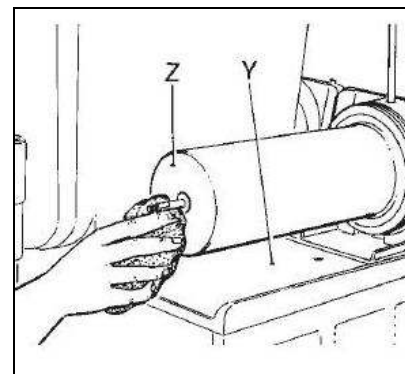

Fig. 15
- Thoroughly wash the evaporator and the drip tray surfaces with a sponge soaked with the sanitizer (see fig.15), leave at least 1-2 minutes and let it dry, do not rinse.